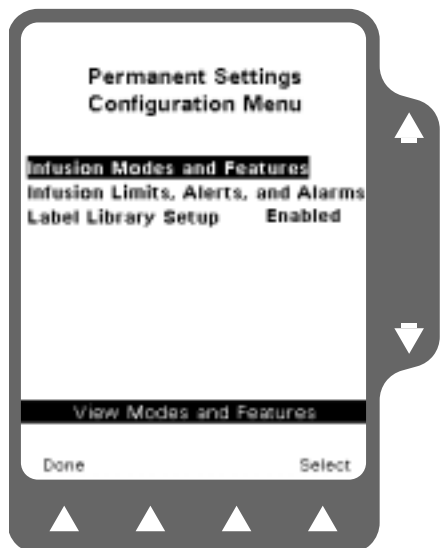

Figure 5-35 Configuration Screen Example
1. Use the $\uparrow\downarrow$ keys to highlight the desired Personality feature set, then press the **View Personality** soft key to view the Personality Configuration menu (Figure 5-35).